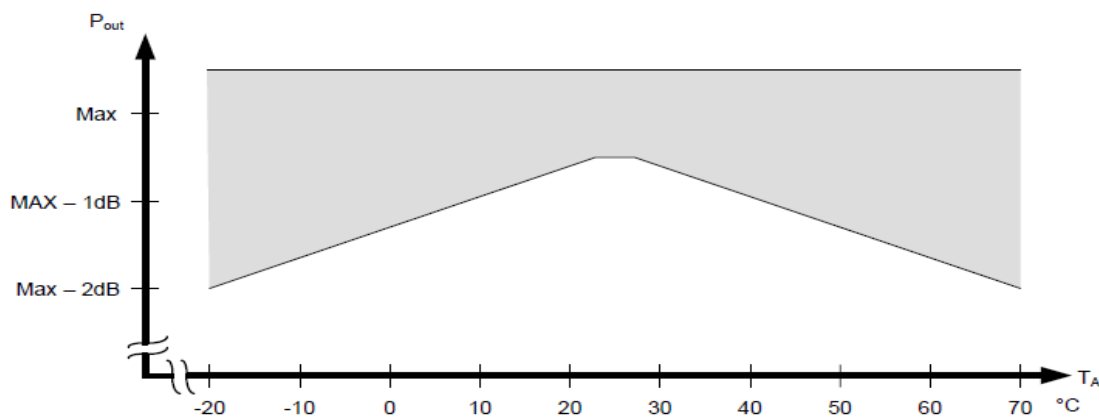

Figure 3-1: Pout vs. ambient temperature
1. TX output power varies with temperature as shown in Figure 3-1